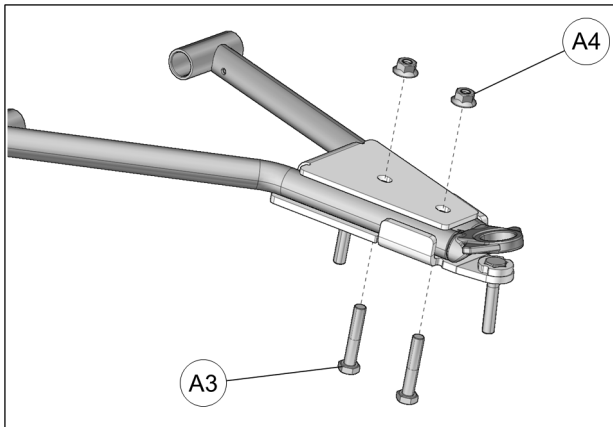

Fig. 19
7. Insert the M10x55 mm bolts (**A3**) through the bottom and secure the two parts together with the nuts (**A4**) provided. Tighten assembly to 50 N•m [37 lb•ft] of torque. See Fig. 19